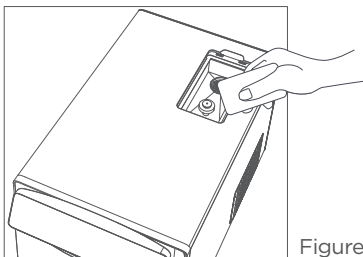

Figure 19
- 3.2.2 Clean the inside using a soaked sponge or towel. Do not remove the filter when cleaning the upper water tank to prevent foreign objects from entering (see Figure 19).